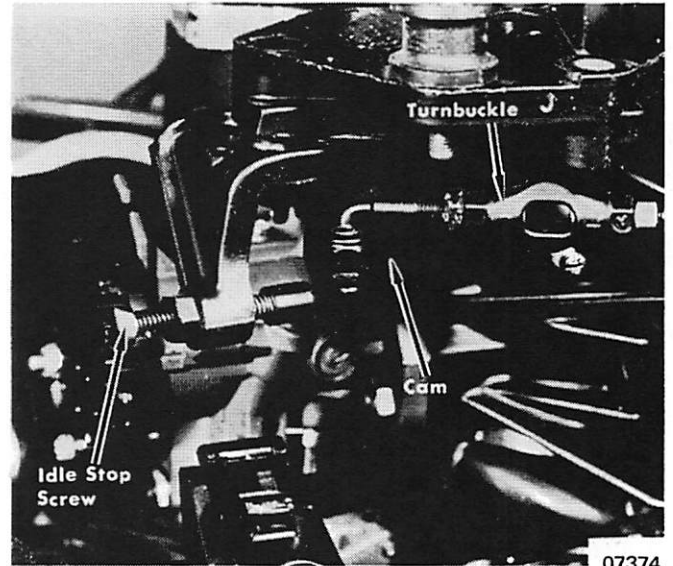

Figure 8. Adjusting Idle Stop Screw
5. Hold spark arm against spark stop screw. DO NOT actuate throttle arm. Adjust throttle pickup screw so that it just touches secondary pickup on carburetor cluster. Tighten locknut. (Figure 8)
7. Reduce engine speed to idle. Adjust idle stop screw so that engine runs at 550 to 600 RPM. (Figure 8)